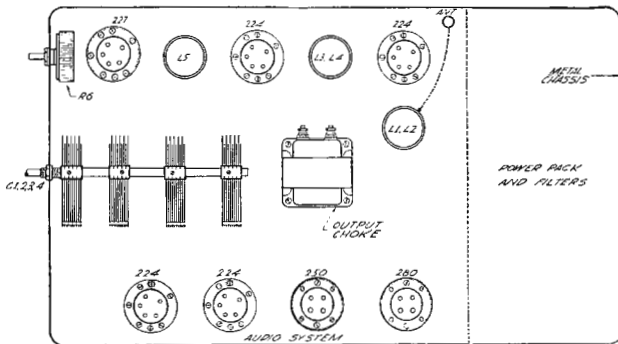

Fig. 2. This is a graphic layout of the parts for the r. f. receiver and its power supply
Fig. 2 indicates the suggested layout for the components, but is offered here more to indicate how the parts are mounted in the case of the commercial job. For the home-made receiver, the components may be mounted on the usual bread-board, without regard for compactness.
3. *Stability.*—Stability must be secured by complete shielding of the r. f. coils, condensers, and tubes, as in the suggested arrangement shown in Fig. 2. If oscillation persists, it may be eliminated by lowering the d. c. voltages applied to the r. f. tubes.